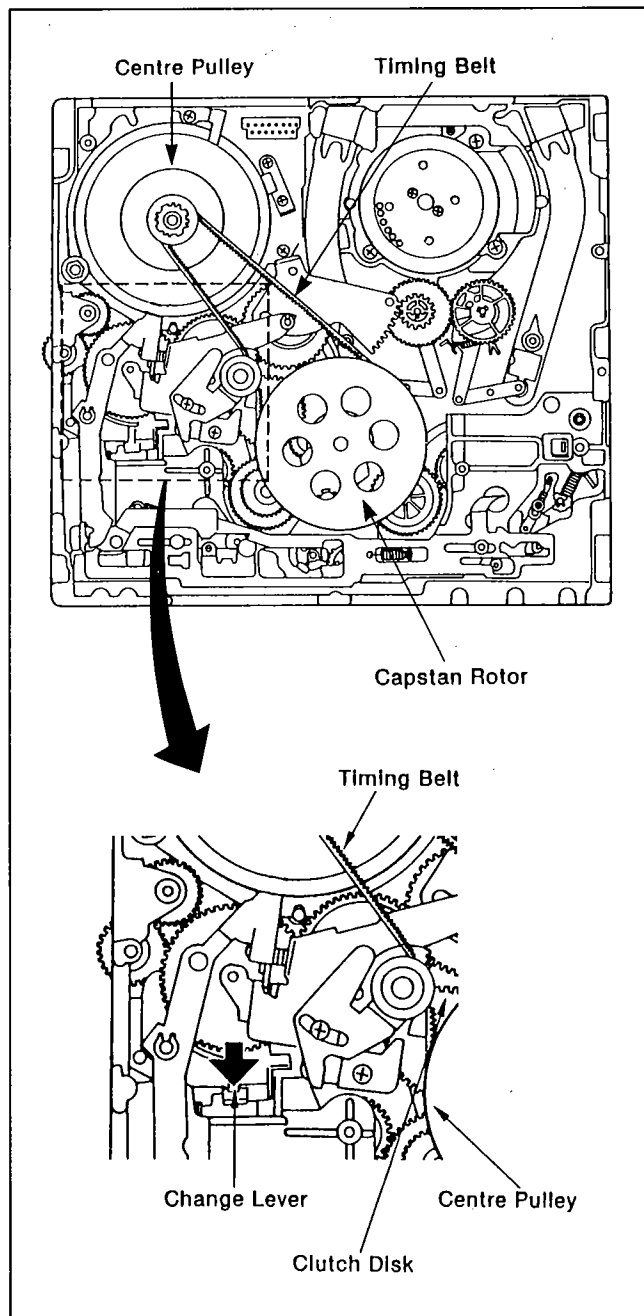

Figure MA3
2. Release the Change Lever direction as shown in Figure MA3.
3. Release the change lever by pushing it to arrow mark direction as shown in Figure MA3.